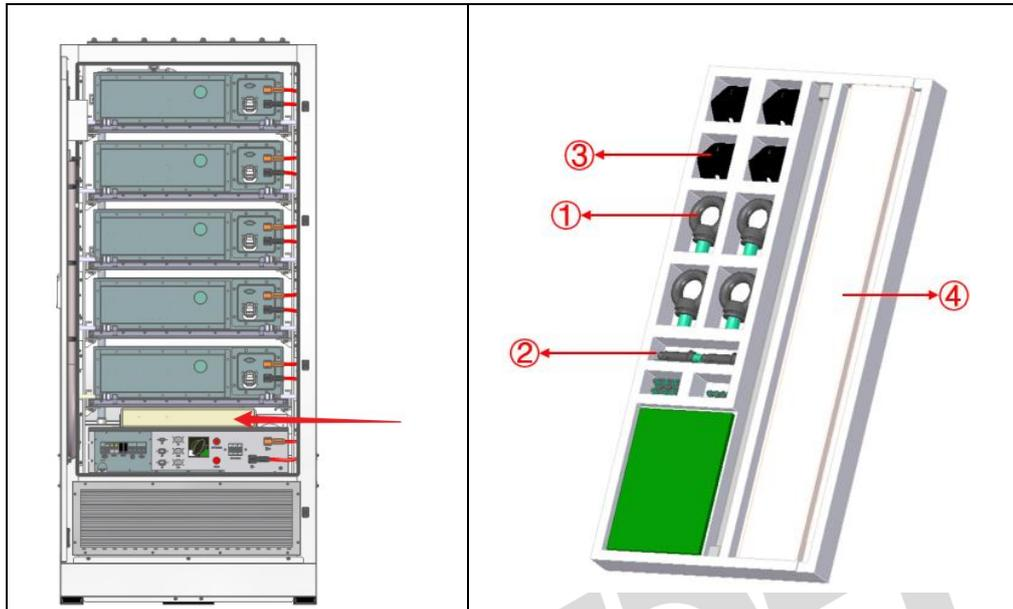

Fig 7-9 Battery Cabinet Accessory
rings (Fig7-9: ①) from the attachment, attach them to the top of the cabinet, and confirm that each lifting ring is tightened.
- a. Remove the base (Fig7-9: ③) and the matching screws and expansion screws (Fig7-9: ②) from the attachment
Remove the prongs from the fitting and attach the prongs to the base, remove the prongs covering sheet metal (Fig7-9: ④) and the matching screws (M6, recommended torque: 5Nm▪).